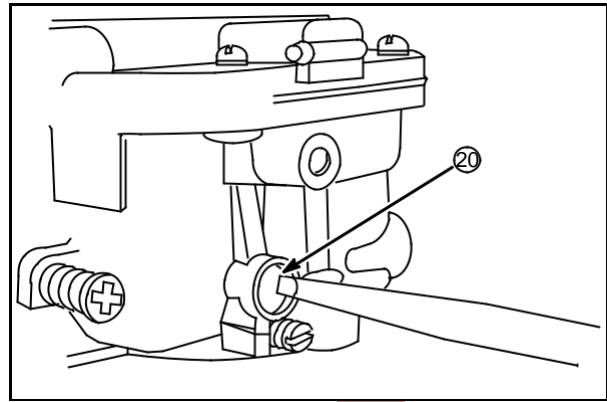

Fig. 84
Remove transitional hole welch plug (20) with a punch as shown, **Fig. 84**.